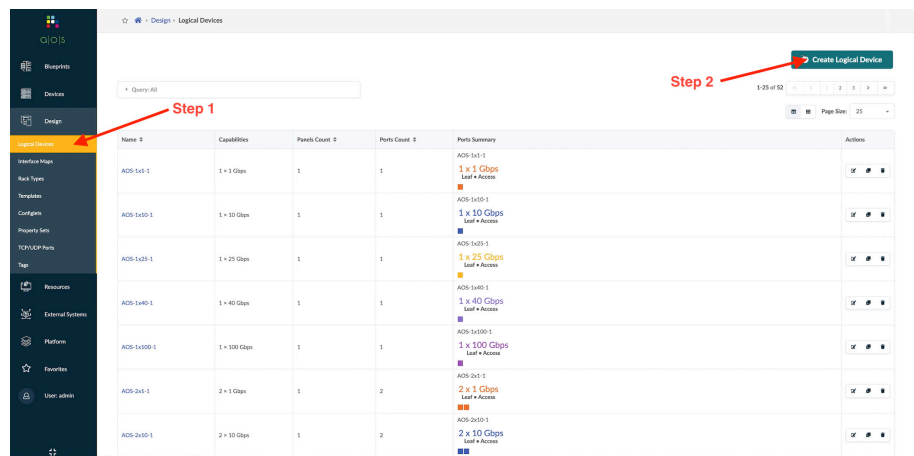

Figure 2.4 Creating Logical Devices
Step 1: Go to Design > Logical Devices. (Figure 2.4)